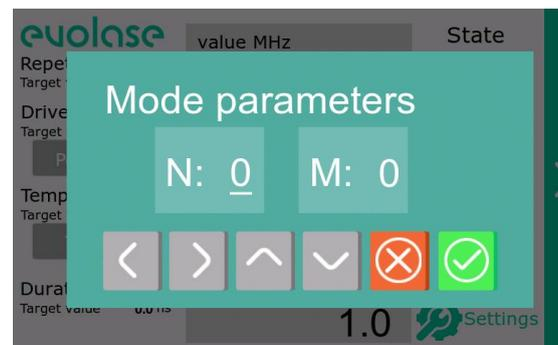

Figure 27 – Burst mode parameters
6. To set the burst mode parameters tap on button, use the left and right arrows to select the parameter to change, use the up and down arrows to change the parameters value (fig. 27). Press button to save the changes and exit menu. Press button to exit menu without changes.